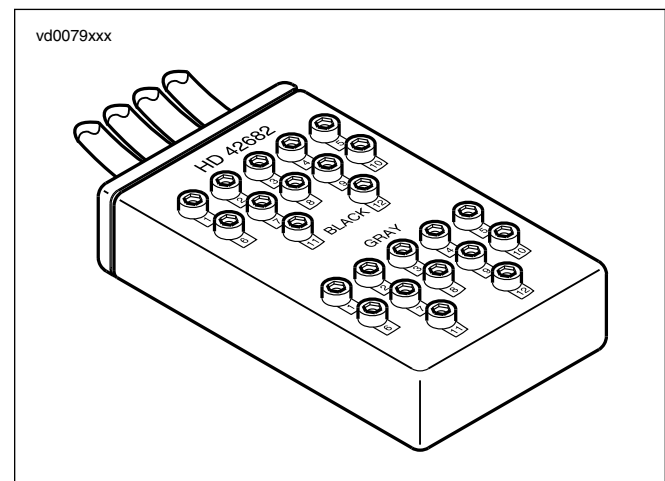

Figure 3-20. Breakout Box
3. See Figure 3-20. Attach Breakout Box to connector.